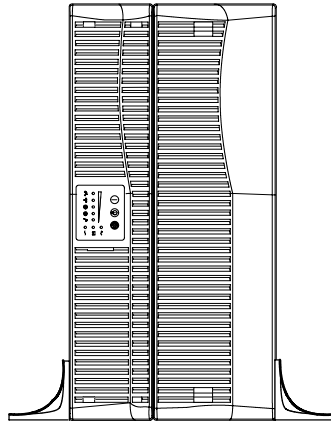

Figure 6. UPS Cabinet with Pedestals
4. Carefully position the cabinet upright (see Figure 6).